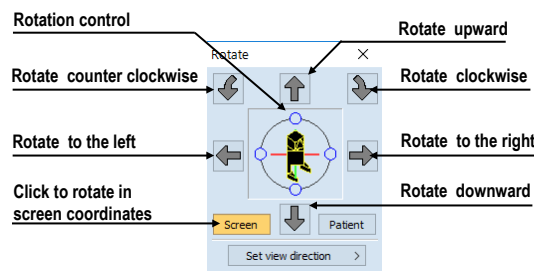

Figure 336 – Rotate tool (Screen mode)
- rotation in screen coordinates (see Figure 336)